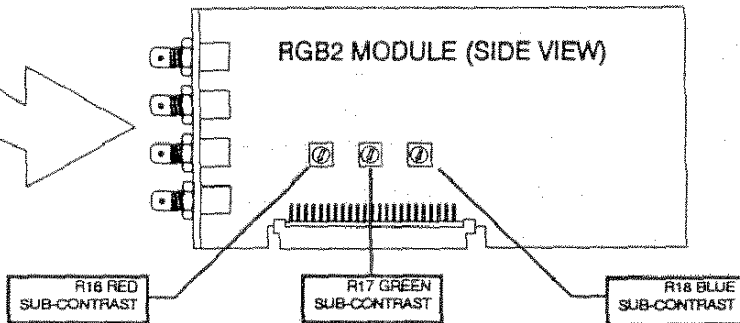

FIGURE 3-15.
- Board settings: set Red, Green and Blue Gain Controls on rear of RGB2 module to maximum (clockwise). See Figure 3-15.